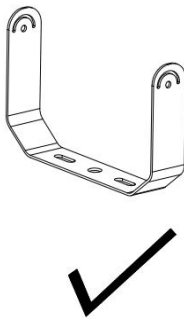

FIG.31
- 1) Select U shape bracket and M10\*90mm expansion screws, drill two holes on the wall or ground, 150mm distance.(See FIG.31 to FIG 33)